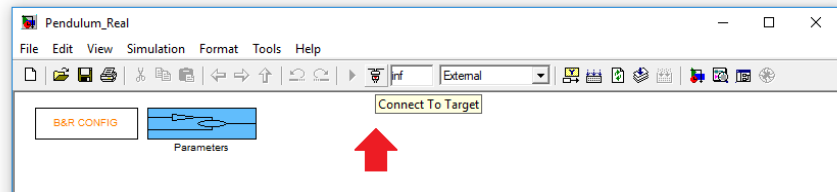

Figure 3.2: Press here to connect to the target.
1. In the Simulink model *Pendulum_Real.mdl*, press the button indicated in Figure 3.2 to connect to the target.
- To start the experiment, proceed as in the first point described in section 3.2.2 and Fig. 3.2.
- Set the 'manual allow signal' in the Simulink file back to 0 and then press the disconnect button (Fig. 3.2) again if you want to stop the real-time execution.